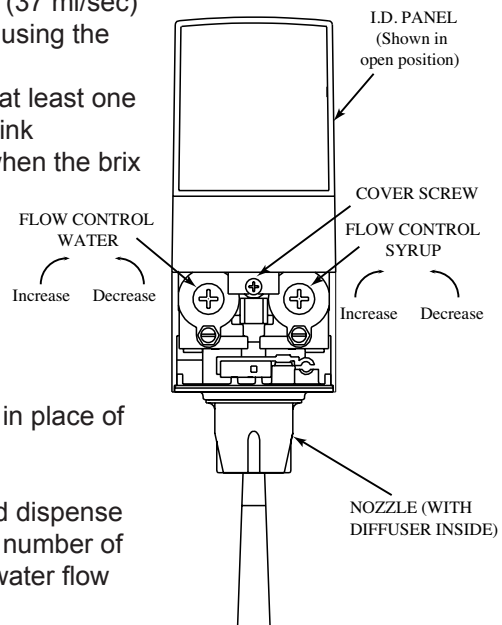

Figure 2
- The refrigeration unit should have been running for at least one (1) hour before you attempt to brix the valves. The drink temperature should be no higher than 40°F (4.4°C) when the brix is set. This is best done after the unit has made an ice bank.
- Slide up ID panel until flow controls are exposed (see Figure 2)
- Hold a Lancer brix cup under the syrup separator and dispense water and syrup into cup for four (4) seconds. Divide number of ounces (ml) of water in cup by four (4) to determine water flow rate per second
- To obtain the proper flow, use a screwdriver to adjust water flow control (see Figure 2).
- B. To obtain the proper brix, use screwdriver to adjust syrup flow control (see Figure 2).